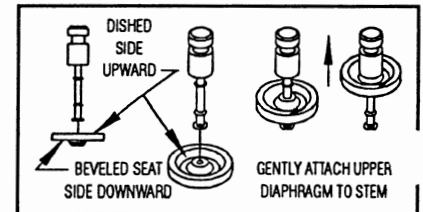

Figure 37. Attaching Upper Diaphragm to Pilot Stem
- f. Use needle nose pliers to install Item 21 Retaining Ring between pilot Stem Flange and Lower Diaphragm Hub as shown in Figure 37.